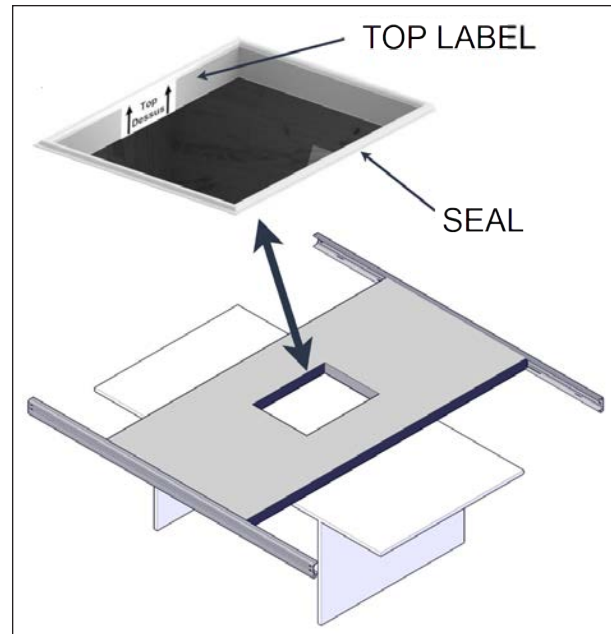

FIGURE 35: ESCAPE HATCH AND C-CHANNEL INSTALLATION
1. Install the center cover panel, with an opening in the center, on the mounting table. Make sure the seal around the escape hatch opening is on top and the top label is properly oriented see Figure 35
2. Install the long C-Channels, 94 9/16". (240 cm) see Figure 35.